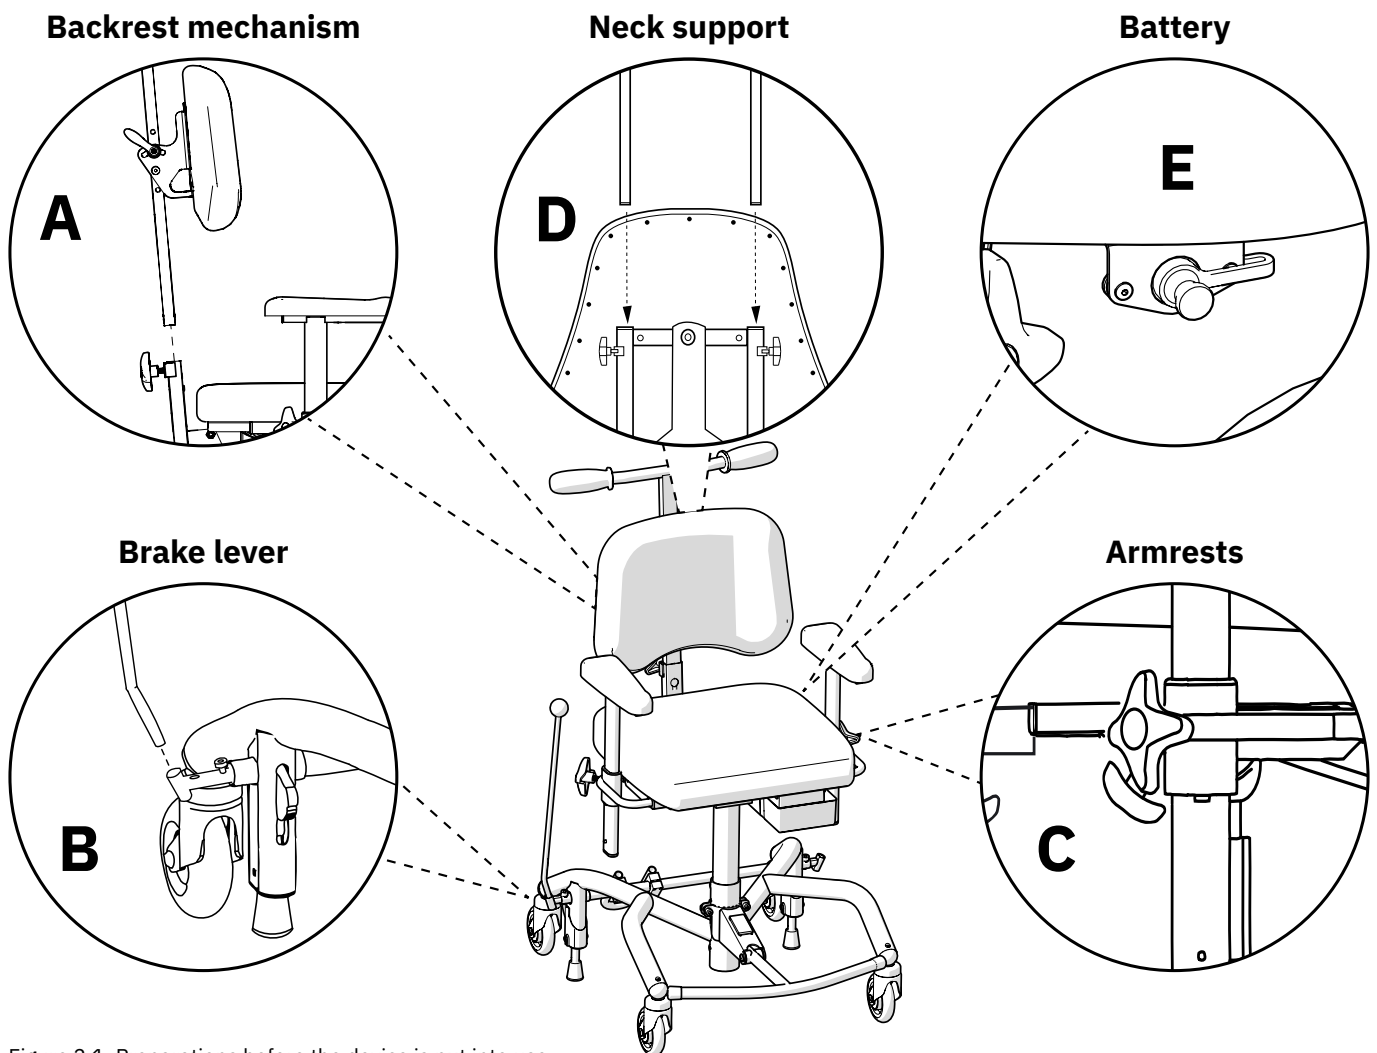

Figure 2.1. Preparations before the device is put into use.
For models with back rest, insert the back rest pole into the back rest mechanism (B) and adjust to the desired height, see Figure 2.1. Tighten all levers (A).
We recommend that the brake lever not be mounted if you intend to use the foot brake. If you intend to use the handbrake function, mount the brake lever as follows: Insert the brake lever into the brake lever bracket (A), see Figure 2.1. The brake lever can be placed on the right or left side.
Loosen the armrest controls (C) and set the desired height and width levels, see Figure 2.1. Tighten all controls (C).
If the device is supplied with a neck support, insert the neck support mechanism into the backrest bracket (D) and set the desired height level, see Figure 2.1. Tighten all controls (D).
Before initial use, activate and charge the battery. This is done by connecting the battery charger to the device's charging socket and to a wall outlet (E), see Figure 2.1. The charging socket can be placed in different places on the device. The device is usually delivered with the charging socket mounted at the rear edge under the seat.